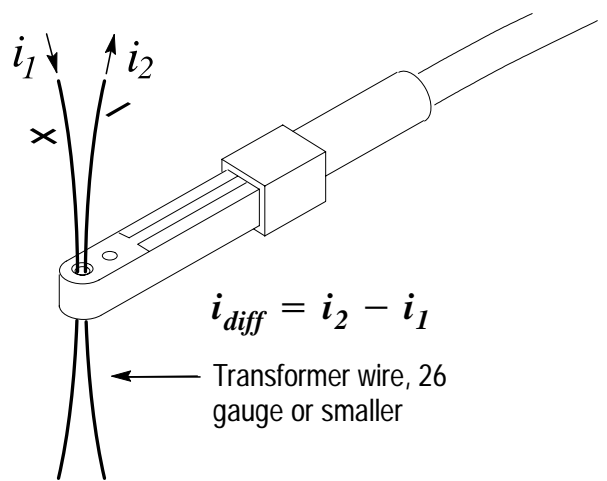

Figure 3: Using two wires to measure differential current
- c. For measuring the difference between two signal currents, use two wires with opposing polarities. (See Figure 3.) Fine, thinly insulated wire such as transformer wire is best for this application.